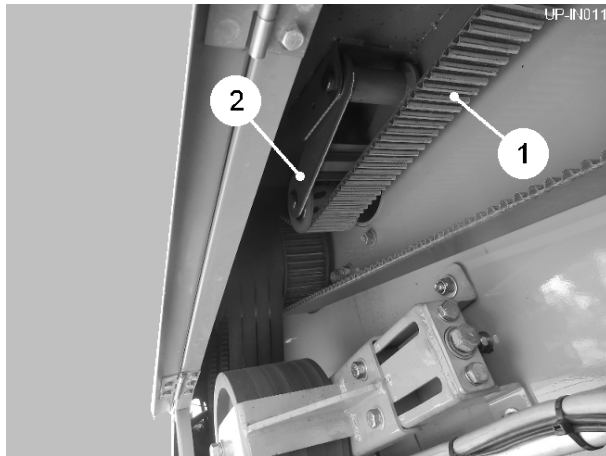

Fig 19
The tension of the toothed belt (item 1, fig 19) is set by the roller unit (item 2, fig 19). To adjust the tension, turn the setscrew (item 3, fig 15) mounted above the top panel. Correct belt tension is achieved when, at a distance half way between the toothed pulleys, the belt can be twisted no more than 45° longitudinally.